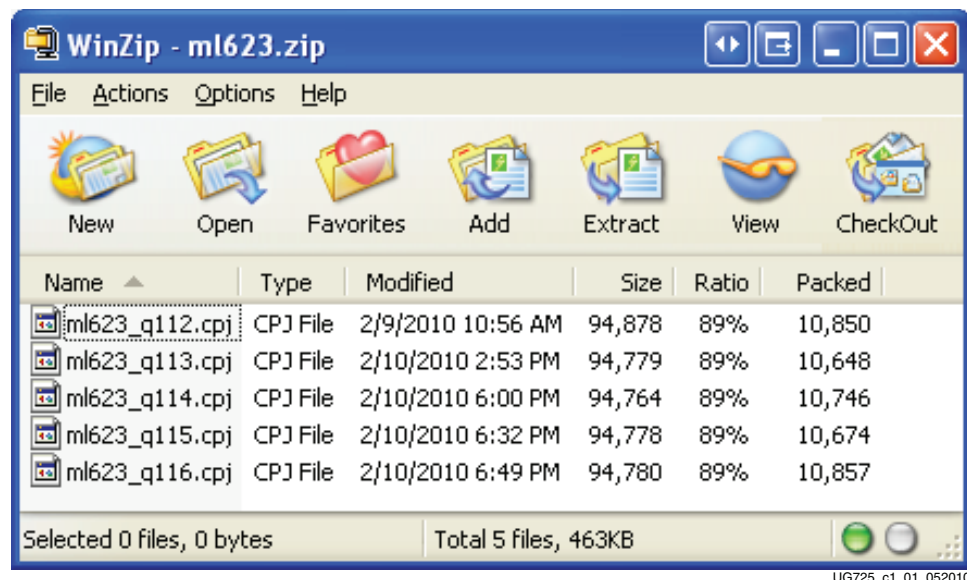

Figure 1-1: ChipScope Project Files Included in the ml623.zip File
2. Locate the file `ml623.zip` on the Compact Flash memory card. The ZIP file content is similar to the files shown in Figure 1-1.